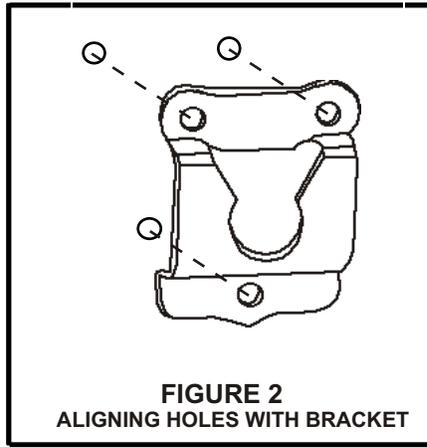

FIGURE 2
- STEP 3. Align the bracket to the punched holes to double check the spacing is correct. (See Figure 2)